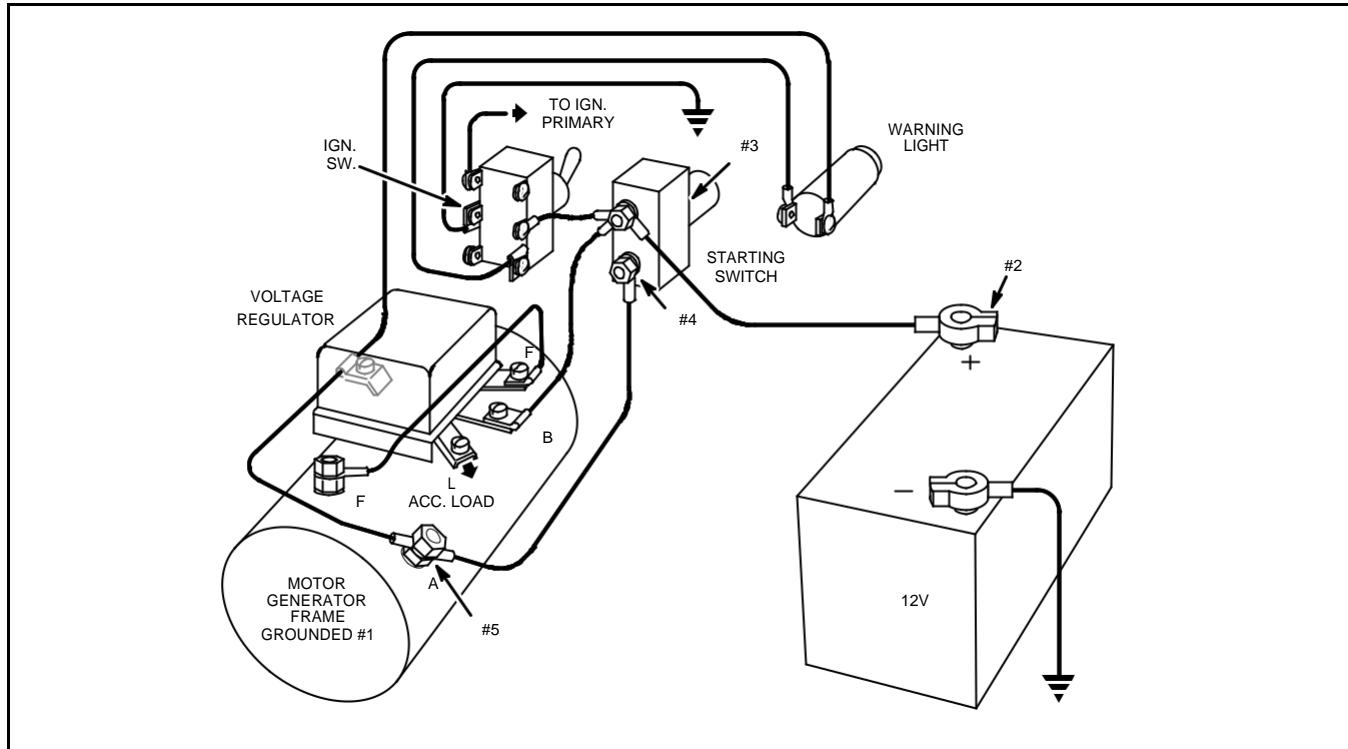

Fig. 719 – WIRING DIAGRAM
A simple method of increasing the charge rate is to disconnect the lead to the regulator BAT terminal and reconnect this lead to the regular (L) terminal. This bypasses the current-voltage feature of the regulator automatically increasing the amount of charge to the battery, Fig. 719.
## CHECKING STARTER-GENERATOR AND REGULATOR (See Fig. 719)